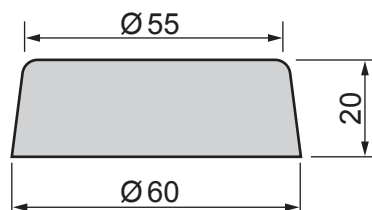

Fig. 13.8
- (f) Fig. 13.8 shows a front view of the mould that will be used to vacuum form the paint pots.
Indicate clearly on Fig. 13.8 a draft angle.